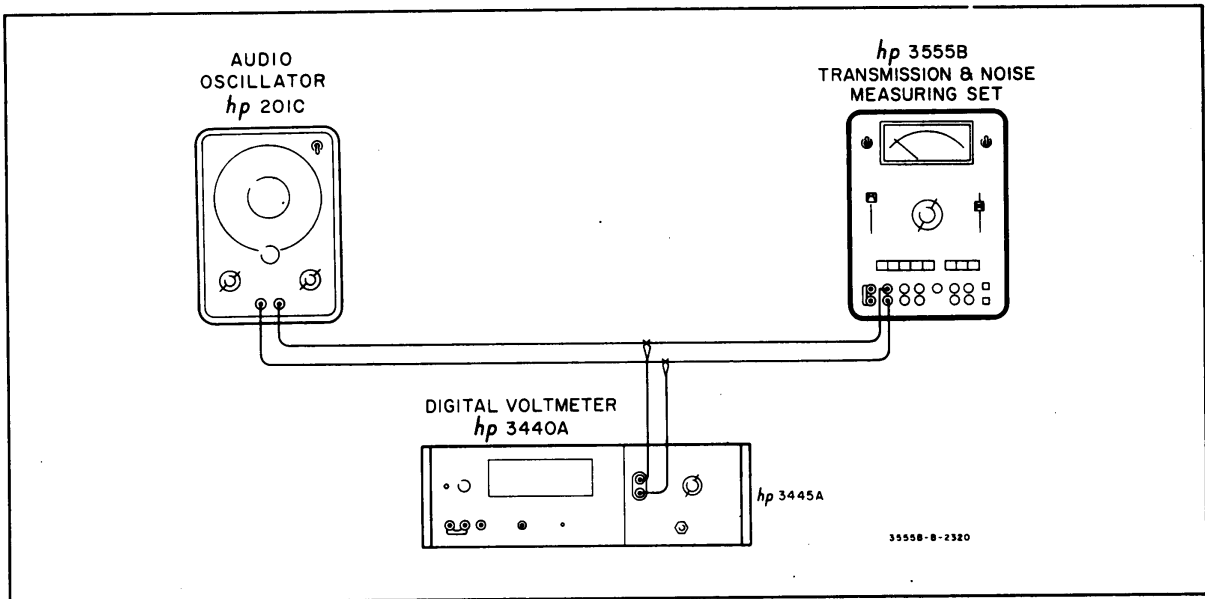

Figure 5-3. +20dBm and +30dBm Level Accuracy Check
- j. To check the top two ranges, connect the equipment as shown in Figure 5-3 and set the 3555B controls as follows:
- n. To check the 900 ohm function on the +20dBm and +30dBm ranges, connect a 300 ohm +0.1% resistor in series with the 3555B input in Figure 5-3.